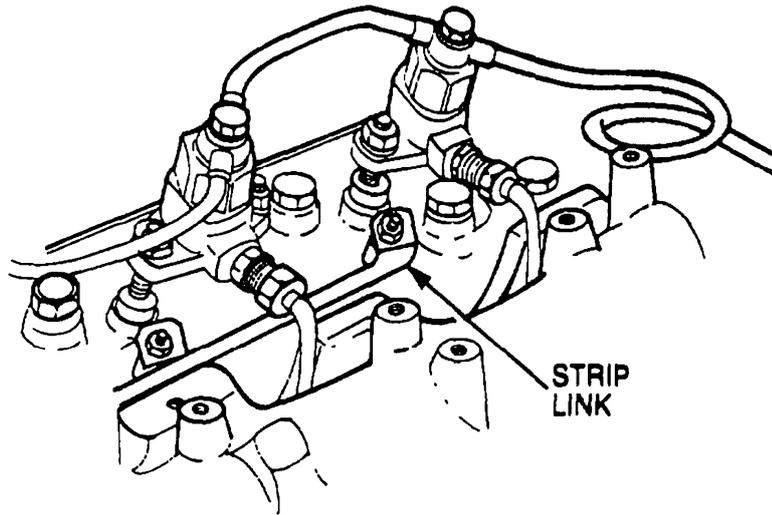

Figure 176 Glow Plug Removal
- b. Loosen the nuts securing the electrical strip link to the glow plugs and slide the link away (Figure 176).